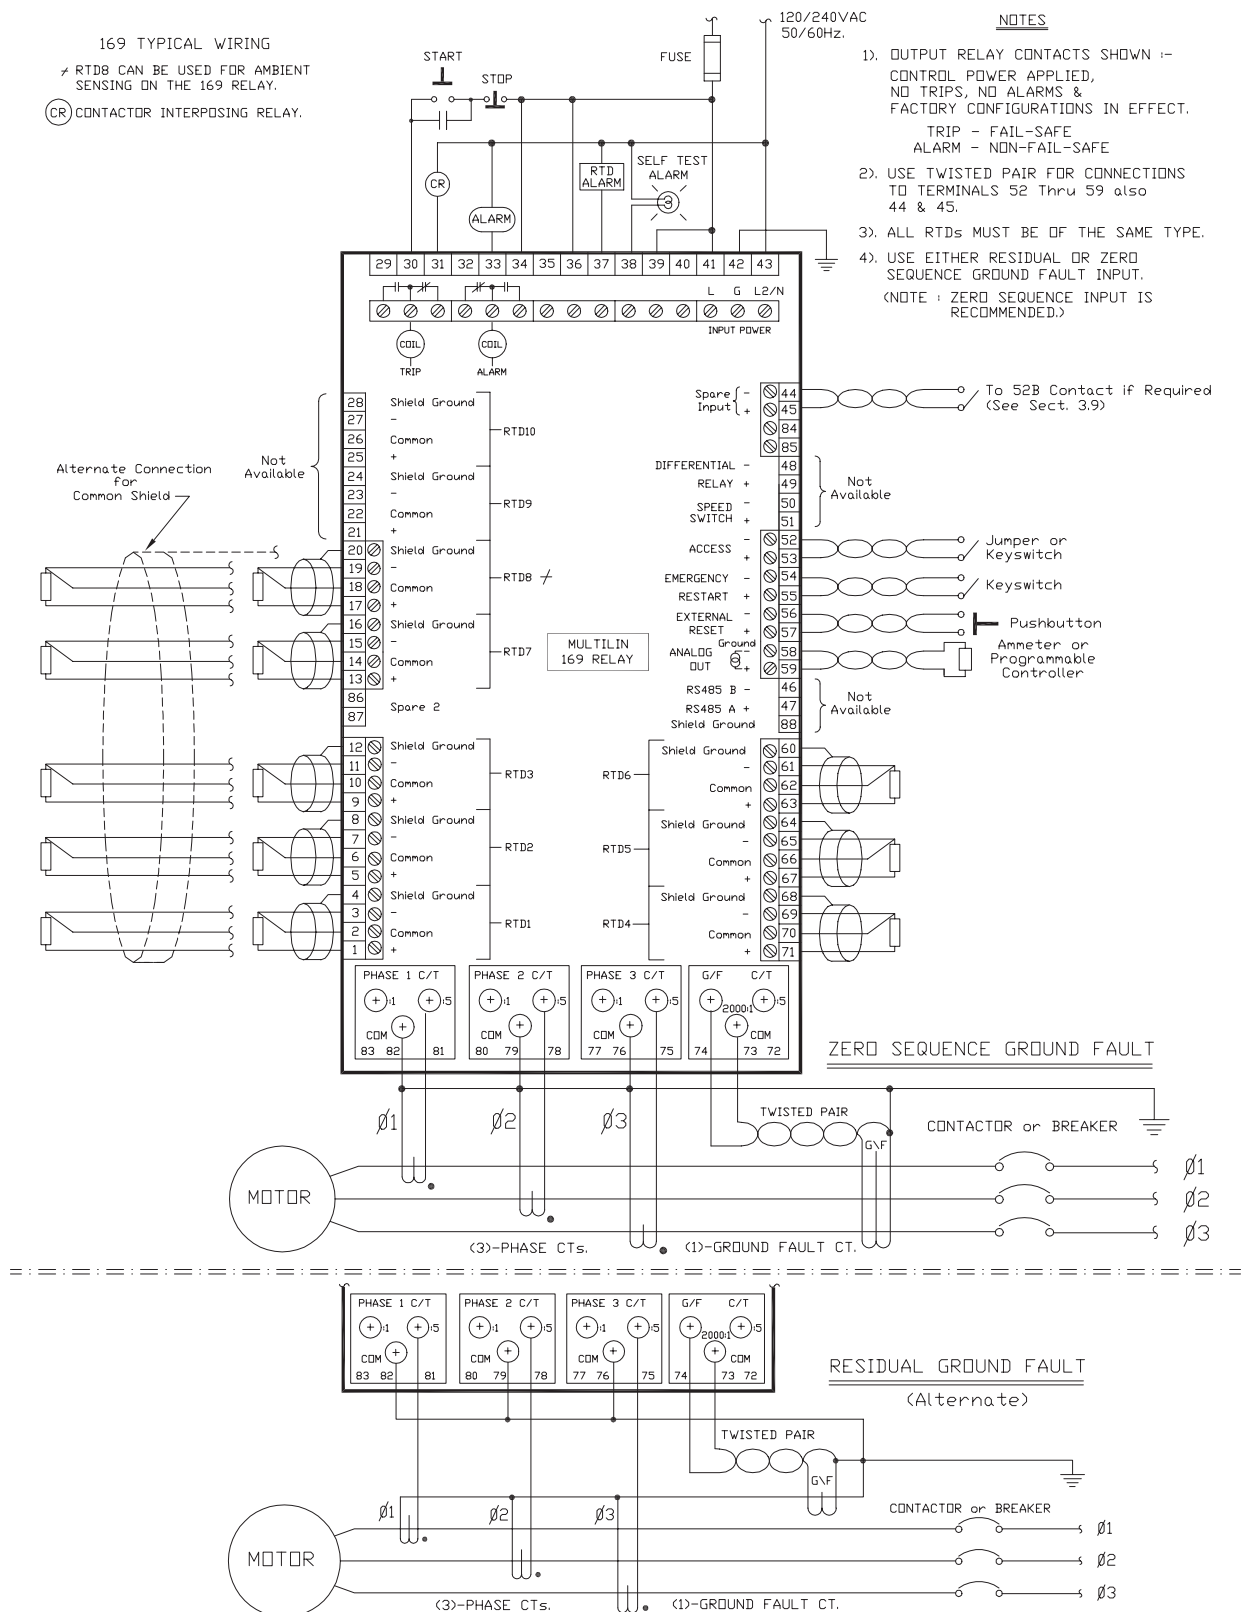
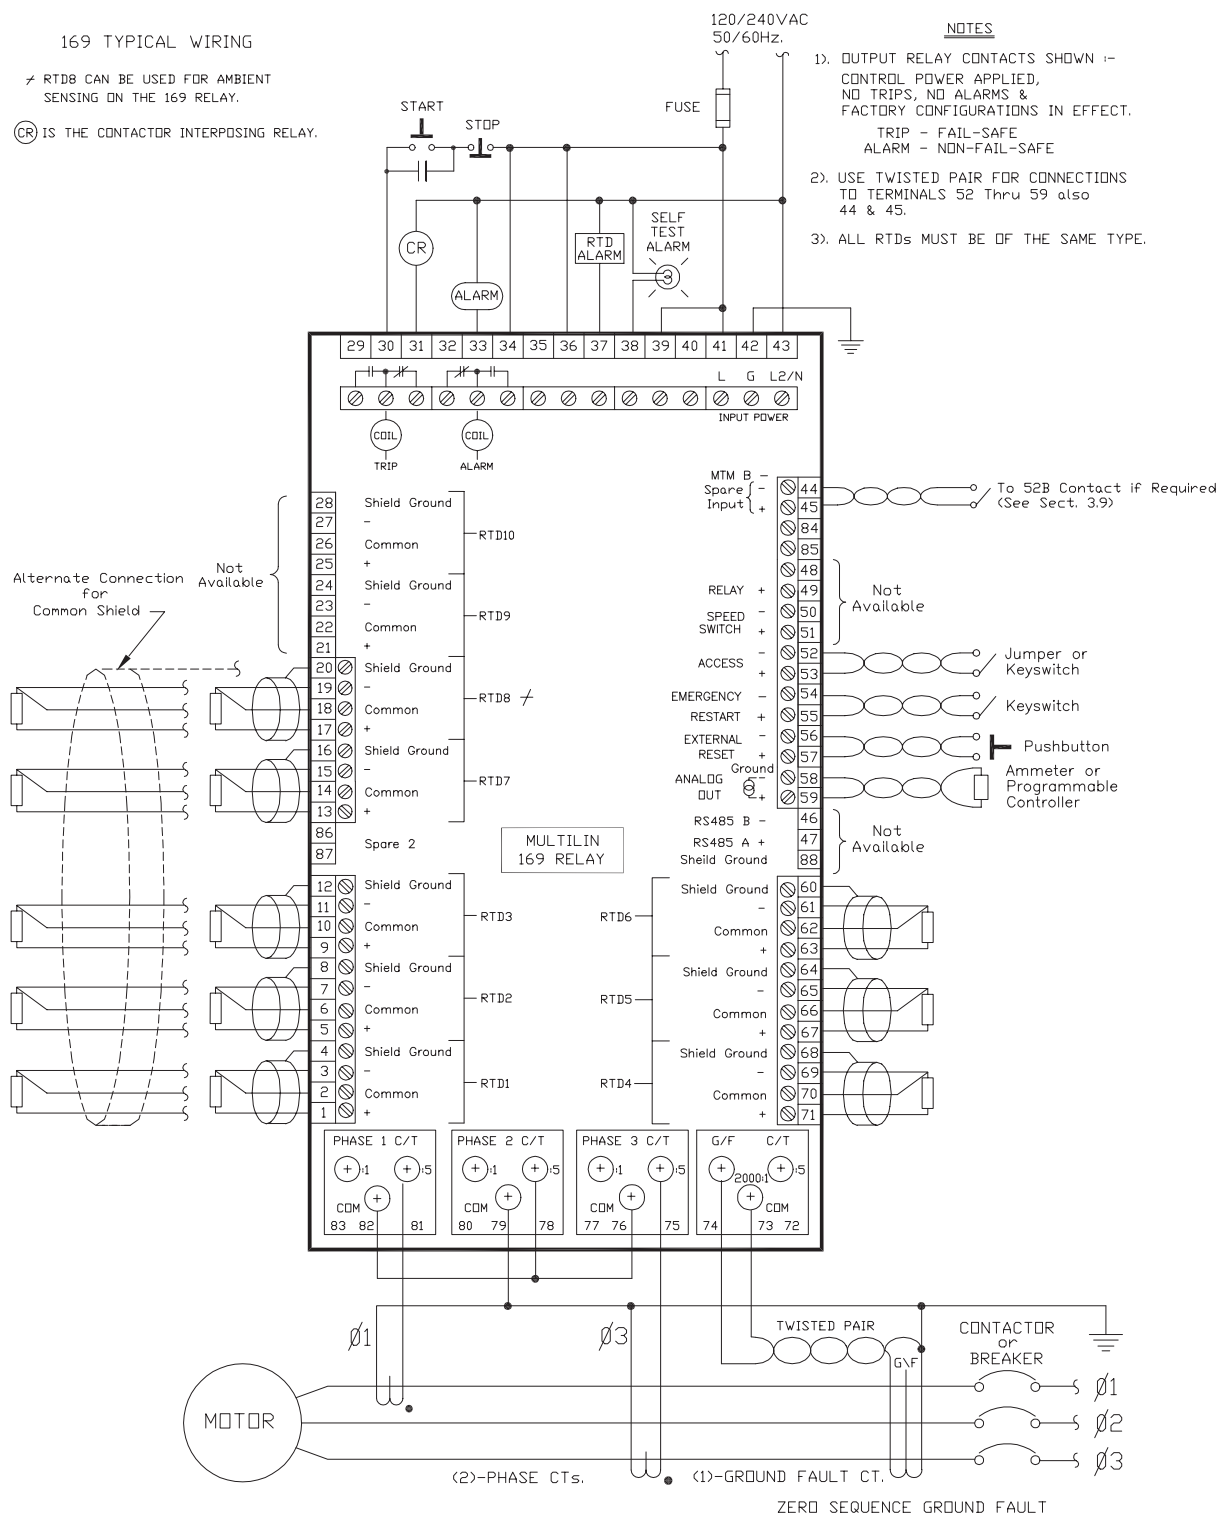

Figure 2-4 Relay Wiring Diagram (AC control power)
Figure 2-6 Relay Wiring Diagram (Two Phase CTs)
The connections made to the 169 relay will vary depending on the programming of the unit. It is not necessary to use all of the connections provided; a minimal configuration would include supply power, three phase current CT inputs and the Trip relay contacts wired in series with the contactor control relay or circuit breaker shunt trip coil. Connections to these and the other terminals outlined below will be explained in the following sections. Figures 2-4, 2-6, 2-7 show typical connections to the 169 relay.
NOTE: The rear of the 169 relay shows output relay contacts in their power down state. Figures 2-4, 2-6, 2-7 show output relay contacts with power applied, no trips or alarms, Factory Configurations, i.e. TRIP - fail-safe, ALARM - non-fail-safe, AUX.1 - non-fail-safe, AUX.2 - fail-safe). See Figure 2-5 for a complete list of all possible output relay contact states. See page 62 for a description of the RELAY FAILSAFE CODE.
One CT for each of the three motor phases is required to input a current into the relay proportional to the motor phase current. The phase sequence must be as shown in Figures 2-4 and 2-7 in order for the phase reversal function to operate properly. If two phase CTs are used as shown in Figure 2-6 the phase reversal function cannot be used (see section 3.19). The CTs used can have either a 1 amp or 5 amp secondary and should be chosen so that the motor full load current is between 50 and 95 percent of the rated CT primary amps. The CT ratio should thus be of the form  $n:1$  or  $n:5$  where  $n$  is between 20 and 1500. The ratio of the CT used must be programmed into the 169 (see section 3.7).
The ground fault CT is connected to terminals 73 and 72 for 5 amp secondary CTs or to terminals 73 and 74 for Multilin 2000:1 CTs. as shown in Figures 2-4, 2-6, 2-7. The polarity of the ground fault CT connection is not important. It is recommended that the two CT leads be twisted together to minimize noise pickup. If a 2000:1 ground fault CT is used, the secondary output will be a low level signal which allows for sensitive ground fault detection.
The main control relay or shunt trip coil of the motor starter or circuit breaker should be connected to the Trip relay contacts of the 169. These contacts are available as normally open (NO), normally closed (NC), and can switch up to 10 amps at either 250 VAC or 30 VDC with a resistive load. Silver cadmium oxide contacts are used because of their ability to handle high inrush currents on inductive loads. Contact Multilin if these contacts are to be used for carrying low currents since they are not recommended for use below 0.1 amps. Connection to the motor contactor or breaker is shown in Figures 2-4, 2-6, 2-7.
**NOTE: The rear of the 169 relay shows output relay contacts in their power down state. Figures 2-4, 2-6, 2-7 show output relay contacts with power applied, no trips or alarms, and Factory Configurations in effect (i.e. TRIP - fail-safe, ALARM - non-fail-safe, AUX.1 - non-fail-safe, AUX.2 - fail-safe). See Figure 2-5 for a list of all possible contact states.**
Each RTD has four connections to the 169 relay as shown in Figures 2-4, 2-6, 2-7. Since the RTD indicates temperature by the value of its resistance, it is necessary to compensate for the resistance of the connecting wires, which is dependent on lead length and ambient temperature. The 169 uses a circuit to cancel this resistance and read only the actual RTD resistance. Correct operation will occur providing all three wires are of the same length and the lead resistance is not greater than 25% of the RTD 0 C resistance. This can be accomplished by using identical lengths of the same type of wire. If 10  $\Omega$  copper RTDs are to be used special care should be taken to keep the lead resistance as low as possible.
RTD2, and RTD3 (terminals #1-12). Other RTDs should be connected to the terminals for RTD7-RTD10 (terminals #13-28) as shown in Figure 2-4.